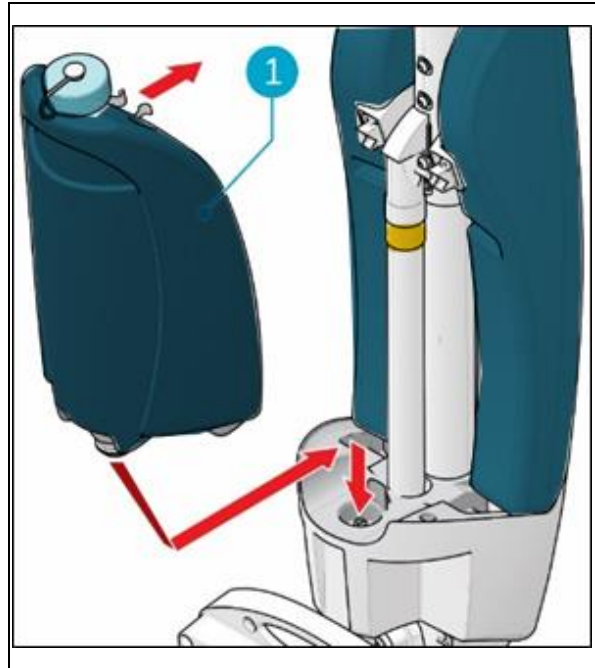

Figure 12
1. Put the tank (Figure12, pos 1) on the i-mop® XXL with the valve first.